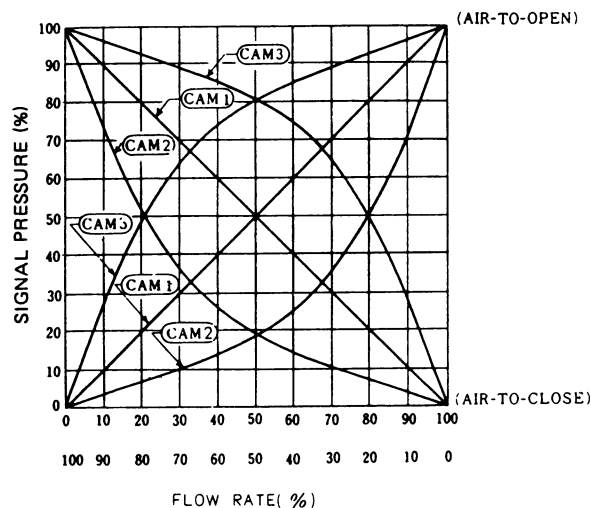

Figure 7. Cam and Flow Characteristics (For linear plug)
- (1) Determine the flow characteristic of the control valve.
- (2) Find whether the control valve is normally open or normally closed.
- (3) Referring to Fig. 7 select a cam which will provide the flow characteristic suitable for the process.